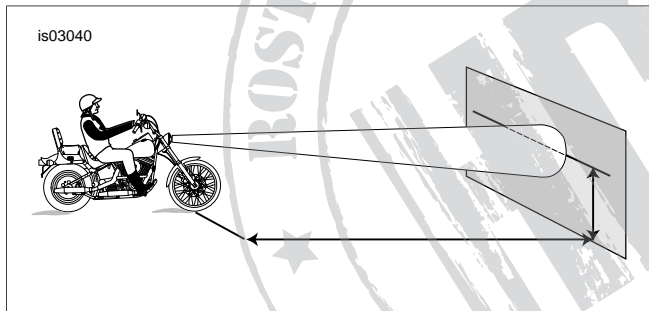

Figure 4. Headlamp Alignment
3. See Figure 4. Position motorcycle 7.6 m (25 ft) away from a screen or wall. Measure the vertical distance from center of headlamp to floor, and draw a horizontal line on screen or wall at same height above floor.